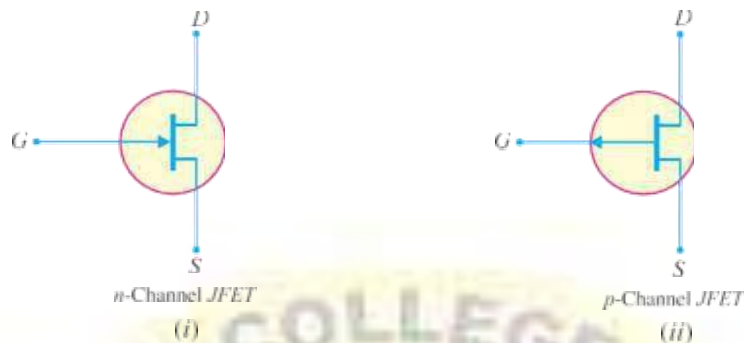

Fig.4.4
Fig.4.4 shows the schematic symbol of JFET. The vertical line in the symbol may be thought
as channel and source (S) and drain (D) connected to this line. If the channel is *n*-type, the arrow on the gate points towards the channel as shown in Fig.4.4(i). However, for *p*-type channel, the arrow on the gate points from channel to gate [See Fig. 4.4(ii)].